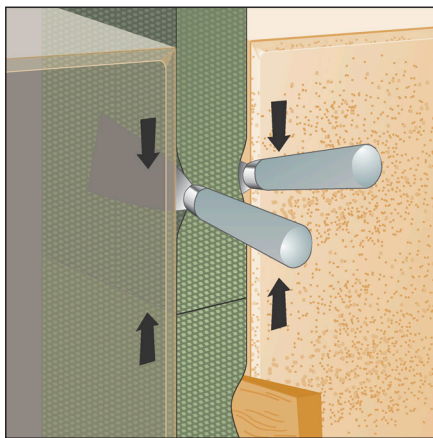

Fig 3 - Compression of tape to make watertight butt joints
- working in damp or cold conditions a wood wedge should be used to hold the tape in position until it is expanded (Fig 3). Ensure the tape is recessed by a minimum of 2mm from the front of the joint.
- At the end of a roll, cut off the tape wedge finish. Repeat the process with a new roll, making a close compressed butt connection as shown in Fig 3.